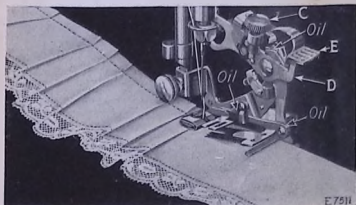

FIG. 48
The ruffler can be adjusted for group plaiting by lifting the adjusting lever (E, Fig. 48) and moving
it to the right so that the top of the projection (D, Fig. 48) engages the small slot indicated by the star on the adjusting lever. This should be done at the points where you wish to make the space between the plaits. The ruffler will then stop and plain stitching will be made. When the desired space has been made, adjust the lever (E) so that the projection (D) enters either the slot marked "6" or the slot marked "12." By alternately making groups of plaits and plain spaces, as shown in Fig. 48, very attractive work can be produced.
Occasionally apply a drop of oil to the working parts of the ruffler at each of the places indicated by arrows in Fig. 48. After oiling, operate the ruffler on a waste piece of material to prevent the oil soiling the work. If the ruffler does not plait evenly, a drop of oil may remedy the trouble.